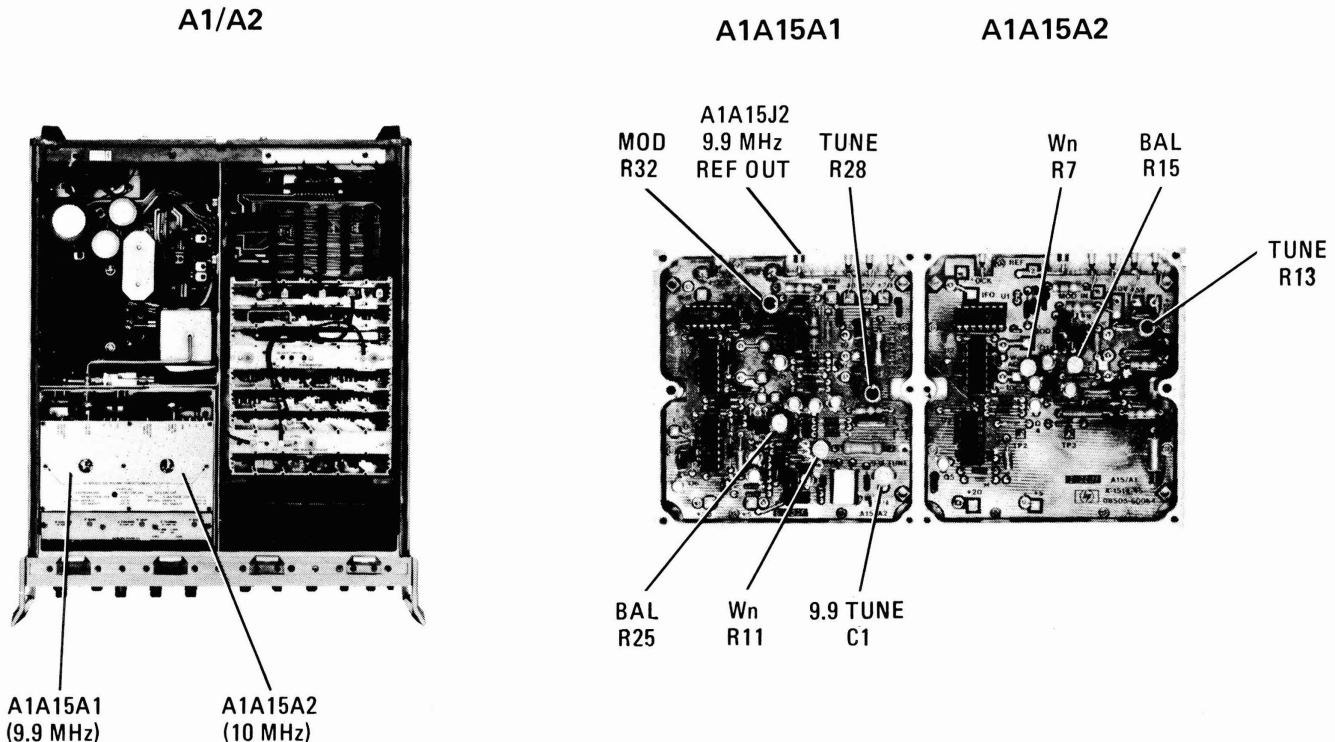

Figure A5-3. A1A15A1/A2 Adjustment Locations
- Connect a frequency counter to A15J2 (Figure A5-3). Adjust "9.9 TUNE" A1A15A1C1 for 9.9000 MHz ± 10 Hz (with cover on A1A15A1).
- a. On A1A15A2, connect DVM to TP3 and adjust “BAL” R15 for +1.8 Vdc. (See Figure A5-3.)